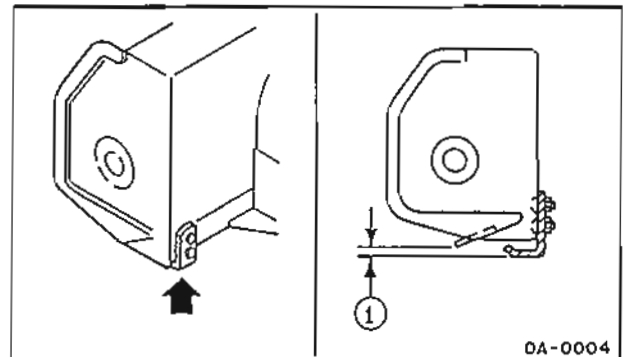

FIGURE 2
- a) Level Paved Surface - adjust skid shoes to allow 1/16" to 1/8" clearance (fig. 2, item 1) between cutting edge and surface.
- b) Uneven or Gravel Surface - adjust skid shoes to allow 1/2" to 5/8" clearance (fig. 2, item 1) between cutting edge and surface.